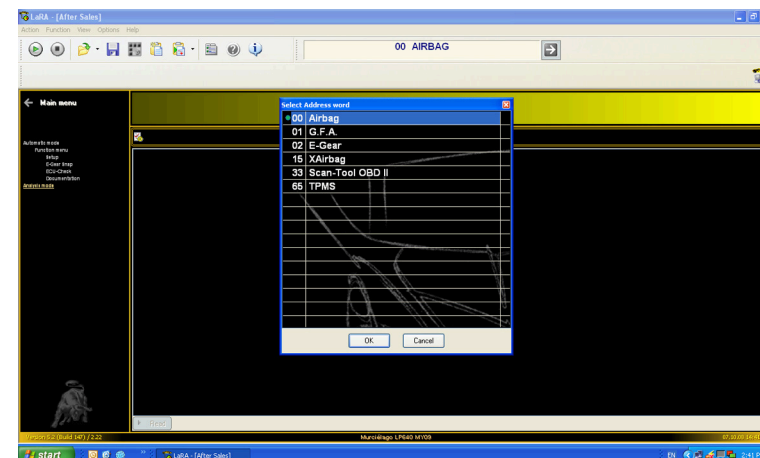

Fig.24
- Select the **00 AIR BAG** (Fig.24) control unit from the list of control units